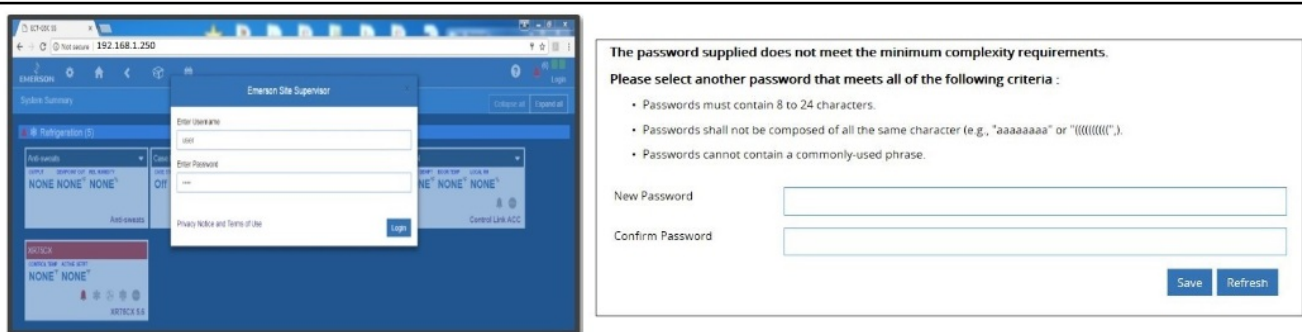

Figure 7 - Login Screen at Controller Startup and Update Password
1. Create a “network.txt” with your desired settings (Figure 7):